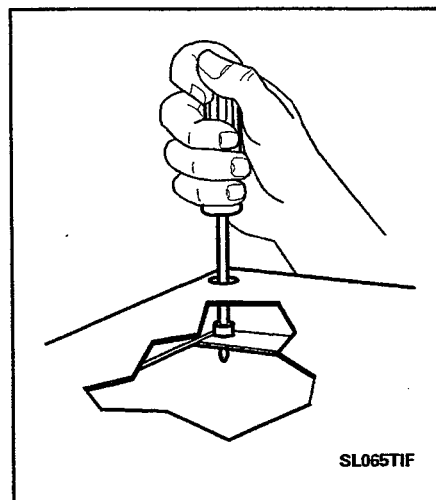

Figure 2-72
4. Remove two 3/8" hex head screws securing the top cover to the rear cabinet flange (Figure 2-72).